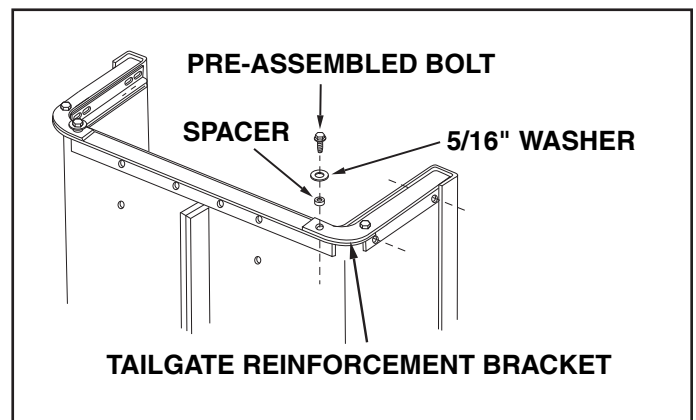

FIGURE 3
8. Remove the bottom two pre-assembled bolts in the tailgate reinforcement bracket. Assemble a 5/16" washer and spacer onto the bolt and reassemble it to the tailgate reinforcement bracket. See figure 3.